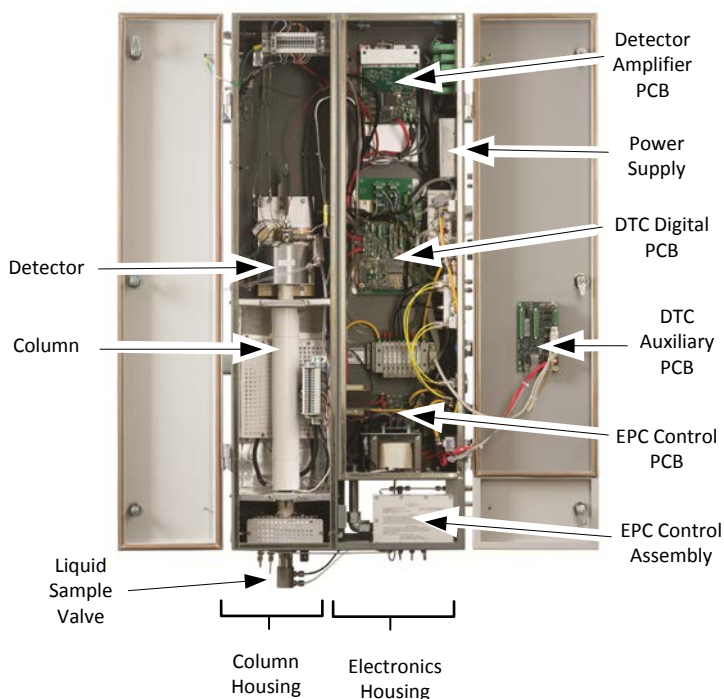

Fig. 6.1. Oven Assembly
6.2 Oven assembly (see Figure 6.1).